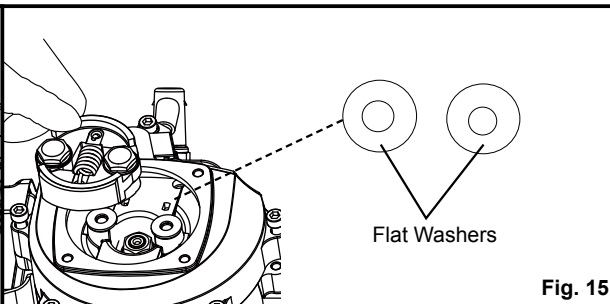

Fig. 15
- Remove the 2 bolts and corrugated washers. Then remove the clutch and flat washers (Fig. 15).